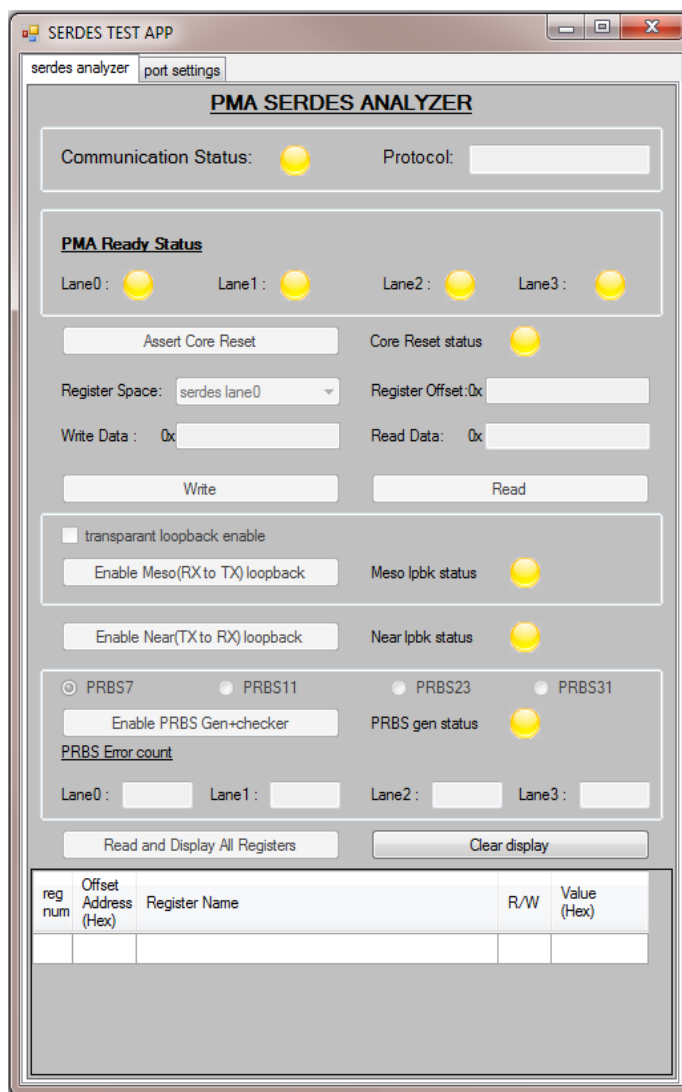

Figure 20 SERDES TEST APP Window
4. Double-click the PMA_SERDES_CONFIGURATOR.exe file to open the PMA SERDES analyzer to test the Evaluation Kit board. Figure 20 shows the SERDES TEST APP window.